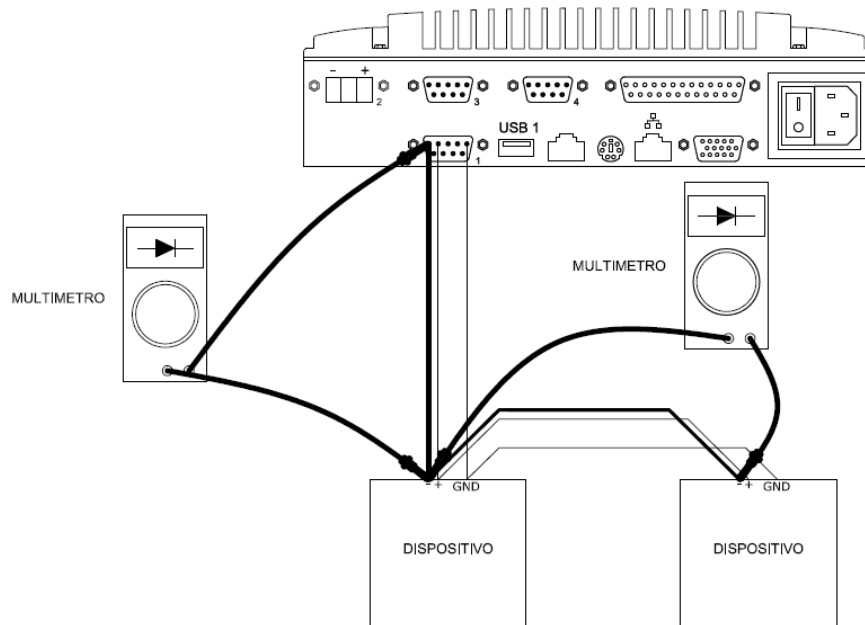

Figure 207 - Electrical continuity
- Always check the electrical continuity between nodes of the network as shown in Figure 207